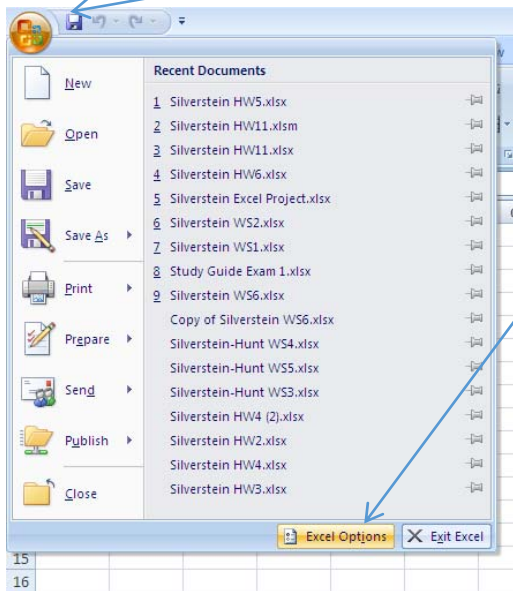

Figure 6
1. Click the **Microsoft Office Button** , and then click **Excel Options** (Figure 6).